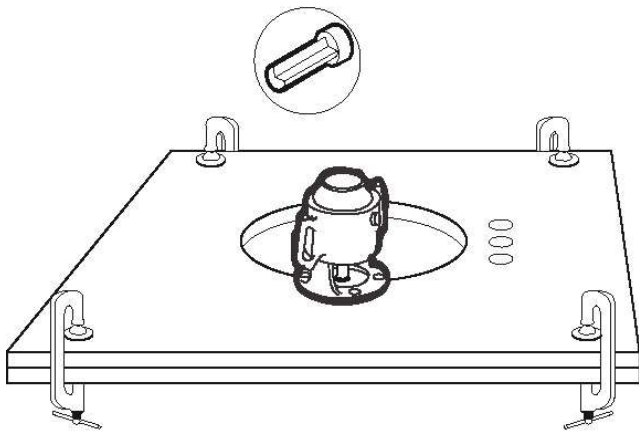

Figure C-5
- Use a 2-hp to 3-hp router with a 1" (25 mm) template guide and a 3/8" (10 mm) carbide-tipped, single-flute bit (Figure C-5).